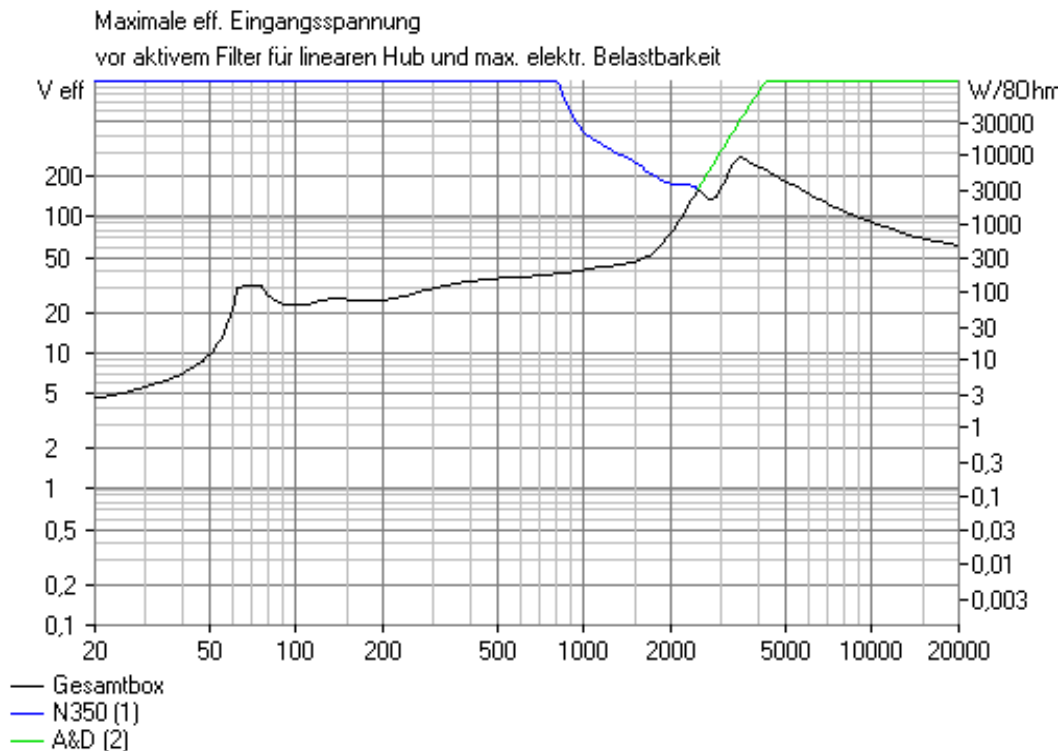

Figure 3.5.4 Theoretical maximum load of a small PA monitor (BoxSim).
To assess loudspeaker performance, we need in, addition to frequency-and impedance response, information on directivity and the achievable limits to which the speaker can be driven. This last factor is particularly relevant to PA loudspeakers. Manufacturers tend to quote excessively optimistic sensitivity and power characteristics for their drivers (see also Figure 3.5.4). Effects such as compression, partial vibration and the limits of displacement of the driver membrane tend to be glossed over, and the theoretical capabilities of drivers are often greatly overstated (4), especially at high and low frequencies.
It takes a lot of power to get 10% THD from a speaker. As an example, Figure 3.5.4 shows a BoxSim simulation for maximum load and input voltage for a small PA monitor. The maximum load capacity is defined by either maximum displacement or electrical load.